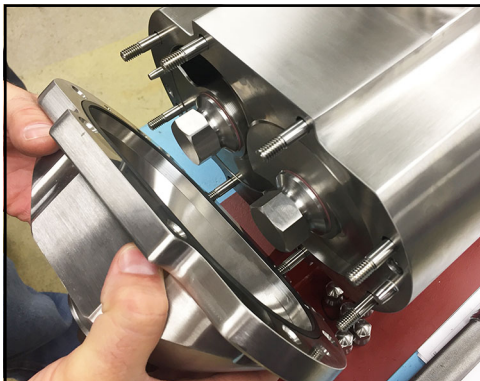

Figure 28 - Remove pump cover
2. Remove the cover from the body. If necessary, use a soft hammer to tap the cover off the body studs and dowel pins as shown in Figure 28.